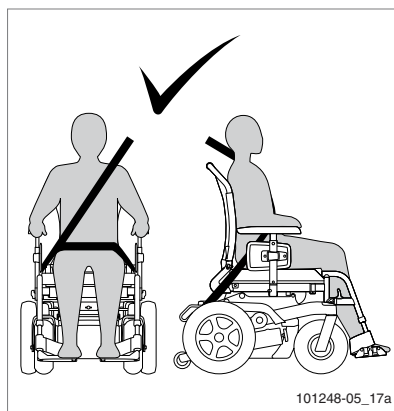

Figure 15
- Position the belt across the hips as tightly as possible at an angle between 30° and 75°. The other part of the belt is positioned to sit across the chest and shoulder (figure 15).